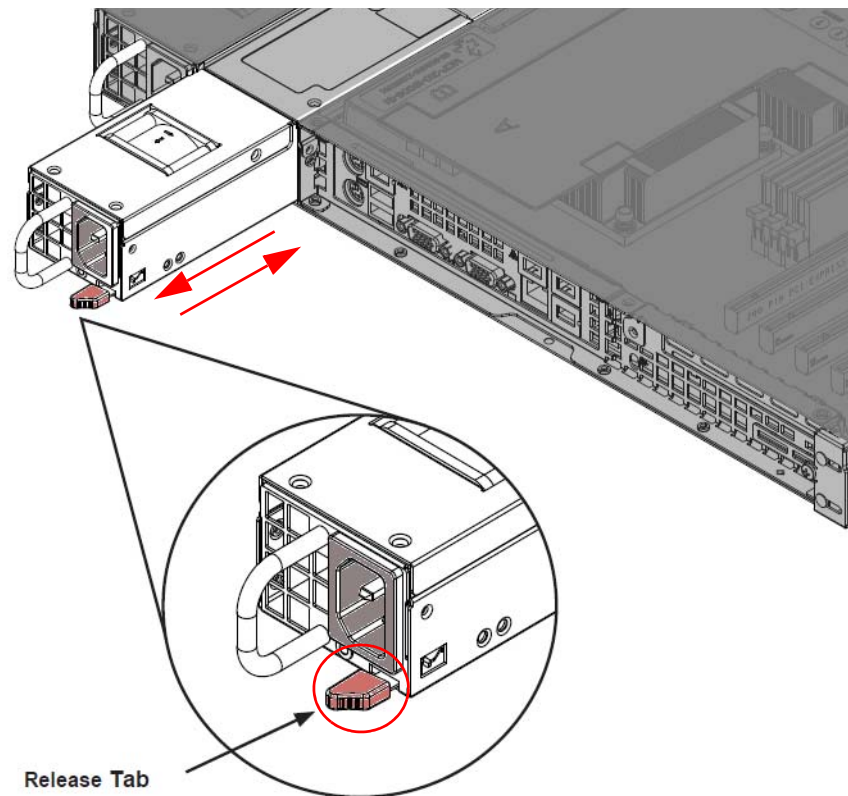

Figure 113 PSU Module Replacement
1. Push the PSU Release tab, see Figure 113.